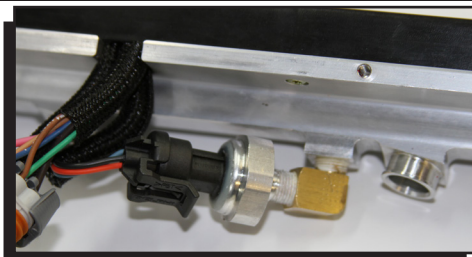

Figure 5
7. Plug the FPS connector into the fuel pressure sensor under the fuel rail (Figure 5).